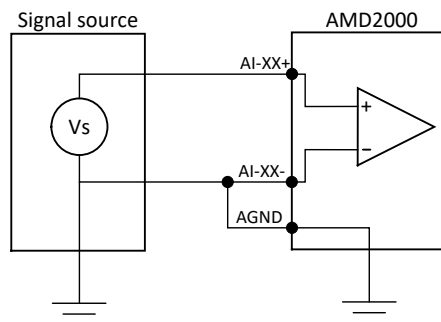

Figure 7-6 Typical Example of Ground Referenced Single-Ended Connection
**Note:** In the scenario presented in Figure 7-6, any potential difference (in many cases this is 50/60Hz powerline noise) between signal source ground and measurement system ground will be picked up into the measurement result.